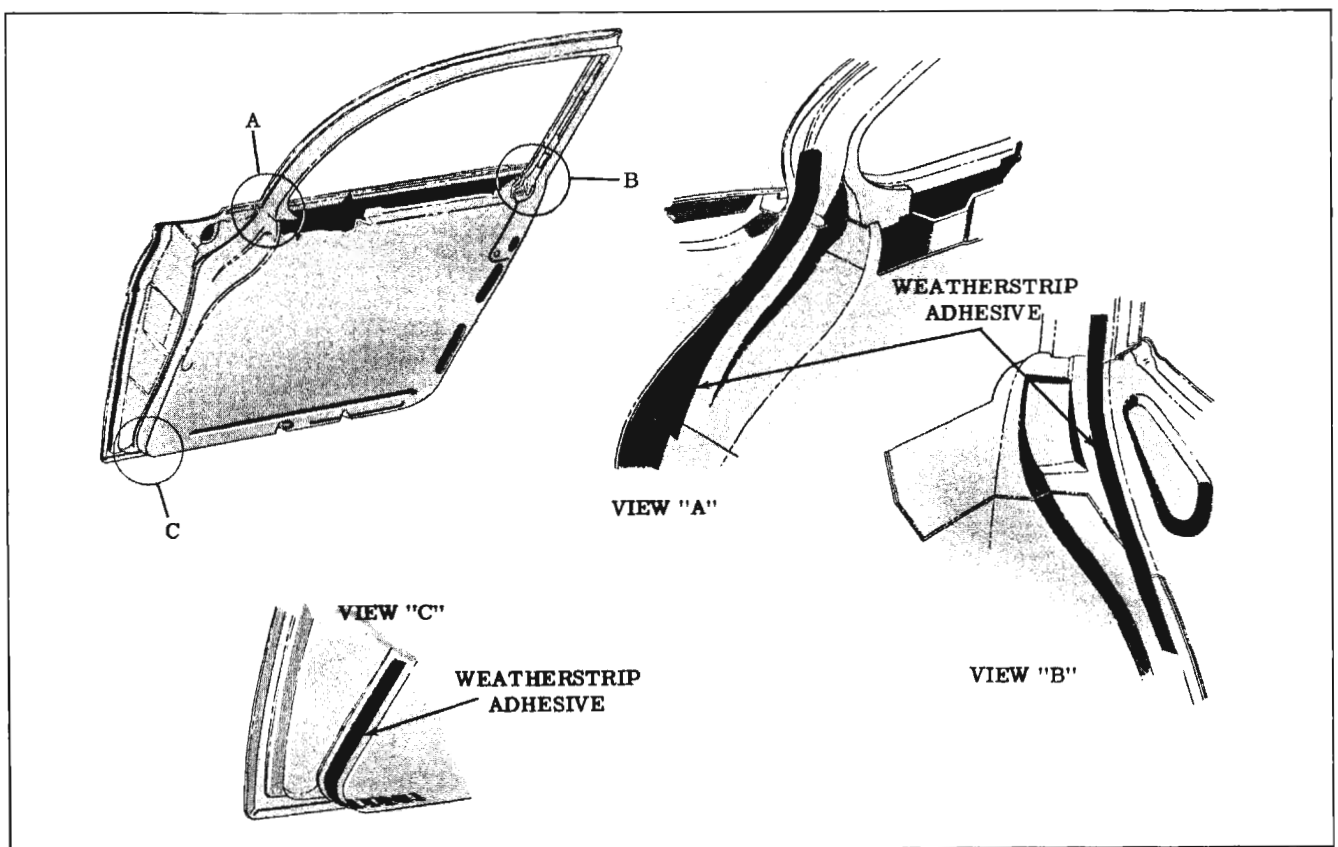

Fig. 16-24 Weatherstrip Adhesive Application
1. Carefully break cement bond securing weatherstrip to door. A putty knife can be used to help break cement bond. (Fig. 16-24)
facing of door. Begin adhesive application slightly above belt line and continue down door for approximately seven to nine inches. If necessary, weatherstrip adhesive can also be applied to lower forward corner of door. (Fig. 16-24)